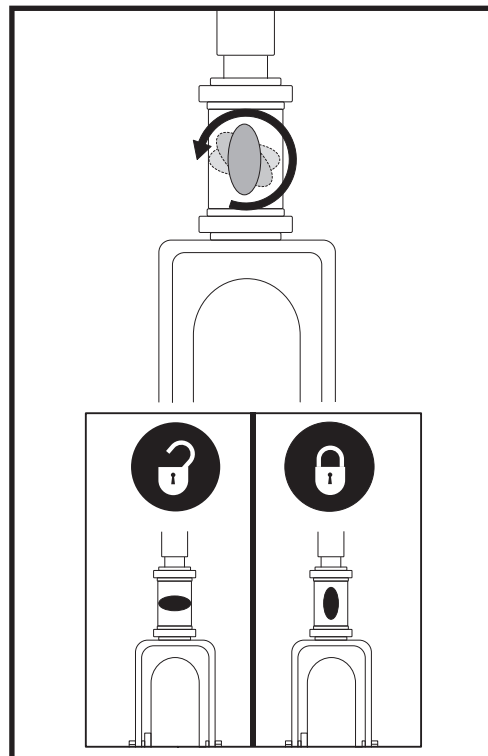

Figure 28. Tiller Lock Knob (Model 104 only)
1. Remove the key from the key switch. *For model 104*, lock the tiller in the straight ahead position by pushing the tiller lock knob in and turning it clockwise 90°. **See figure 28.** The front wheel must face forward in order to lock the tiller.